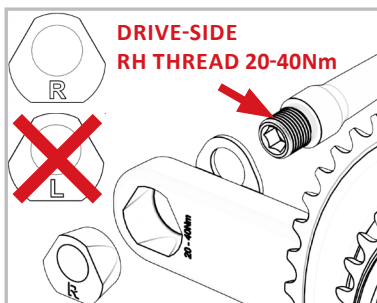

FIG. 5
- Make sure to use the correct Tri-lobed nut marked with "R" when installing the Drive-Side pedal (Fig. 5).